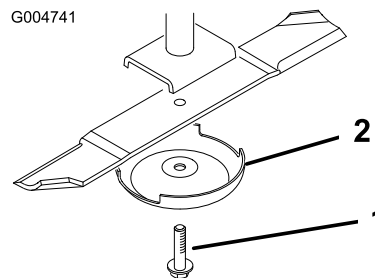

Figure 143
3. Remove the blade bolt, anti-scalp cup, and blade from the spindle shaft (Figure 143).